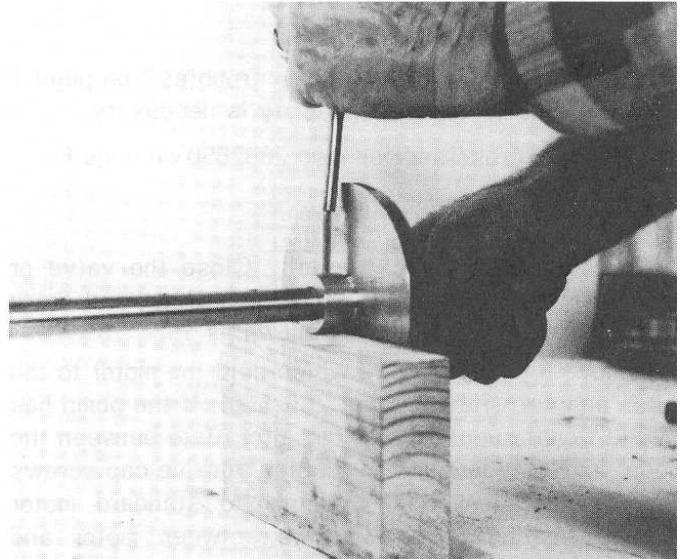

Figure 4
3. Place first impeller on pump shaft so that hub is facing toward top end of shaft and impeller skirt is facing bottom end of shaft. Slide impeller toward the bottom until the lock-pin hole in the impeller hub is lined up with the first (bottom) lock-pin hole in the shaft. Next place impeller and shaft on 2 x 4 block so that impeller hub is resting on edge of 2 x 4 block (see Figure 4). Check the alignment of the lock-pin hole in impeller hub and the lock-pin hole in pump shaft before proceeding and adjust as necessary. Now place Driv-Lok pin with pilot end (taper) in impeller lock-pin hole and using a standard punch and hammer, tap the Driv-Lok pin into final position taking care while doing so that alignment between impeller and shaft is not lost. If resistance is encountered after Driv-Lok pin has made some initial headway, alignment has been lost. Turn impeller and shaft so that opposite end of lock-pin holes may be seen and adjustment of realignment determined.
When impeller and shaft lock-pin holes have been realigned, proceed with tapping Driv-Lok pin into impeller and shaft (see Figure 4). Ends of Driv-Lok pins should be 1/32" below hub surface. Dress the impeller hub lightly with a file on that portion of the hub where lock-pin hole is located (both sides) so that all burrs and irregularities may be removed.